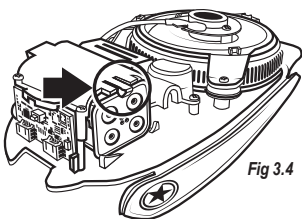

Fig 3.4
- Flip the Floor over and locate the Battery Pack and note the small tab that locks it in place (Fig 3.4).